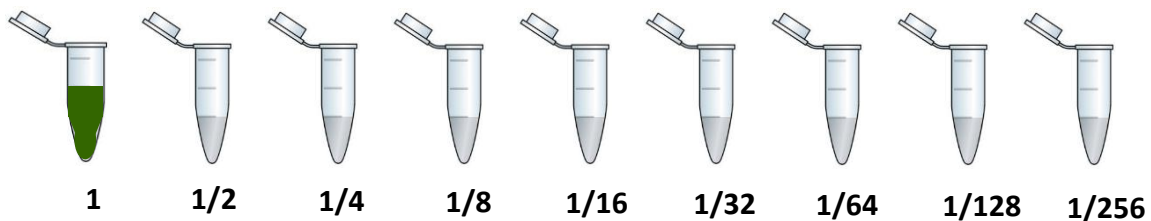

Fig. 1
4. Using a p1000 micropipette, place 0.5mL of water in each of the other tubes (See Fig 1.).